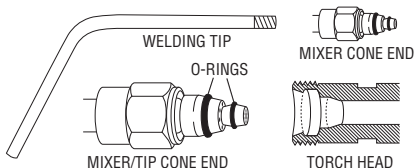

Figure 5
4. Select the required size and type of tip. Inspect the cone end for missing, worn, or damaged O-rings (see Figure 5).
*There **MUST** be two (2) sealing O-rings in good condition on the cone end. The absence of either O-ring creates a condition that allows pre-mixing of oxygen and fuel gases. This can lead to sustained backfire within the torch handle or cutting attachment (see Figure 5).*
2. Inspect the cone end of the cutting attachment for missing or damaged a-rings before using (see Figure 5).
*There **MUST** be two (2) sealing o-rings on the cone end. The absence of either o-ring creates a condition that allows pre-mixing of oxygen and fuel gases. This can lead to backfire within the torch handle or cutting attachment (see Figure 5).*